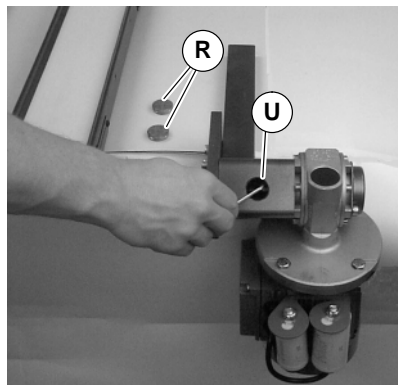

Figure 30
|  |  | WARNINGExposed moving parts can cause severe injury.REPLACE INSPECTION PLUGS (R of Figure 30) BEFORE RUNNING CONVEYOR. |
12. Tighten coupling set screws (U of Figure 30). Replace inspection plugs (R).